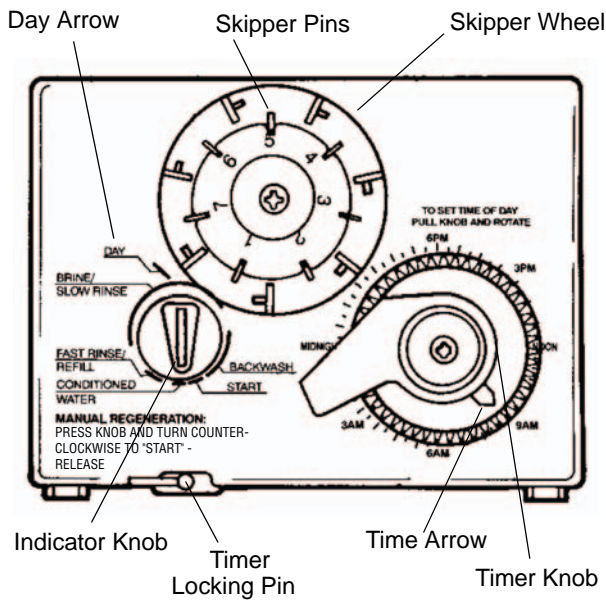
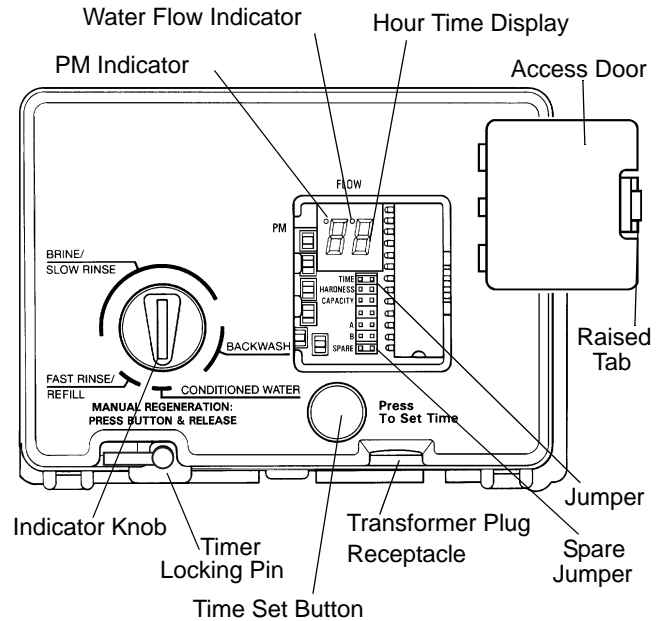

Figure 11
Figure 12
Note: The following steps will require turning the indicator knob (Figure 11) to various positions. Insert a wide-blade screwdriver into arrow slot in indicator knob and press in firmly. With knob held in, rotate **COUNTERCLOCKWISE** only until arrow or knob points to desired position. Rotation is made much easier if you grasp the camshaft with your free hand and turn it at the same time. Then permit knob to spring back out.
2. Insert screwdriver into slot in indicator knob (Figure 11). Press in and rotate knob **COUNTERCLOCKWISE** until arrow points directly to the word **BACKWASH**.
- Set days of regeneration on skipper wheel (Figure 11).
Note: The Timer Locking Pin should always be horizontal (Figure 11) during operation.
Open the access door by pushing the raised tab on the door toward the left while pulling the tab out (Figure 12).
Note: The Timer Locking Pin should always be horizontal (Figure 12) during operation.
When abnormally high water usage exhausts your water conditioner's capacity ahead of schedule, an extra regeneration can be achieved. Depress the indicator knob on the 440i (Figure 11) with a wide-blade screwdriver and turn **COUNTERCLOCKWISE** to **START** to initiate a regeneration. For the 460i, simply depress the indicator knob (Figure 12). It will take a few minutes for regeneration to start. A normal regeneration will take approximately two hours.